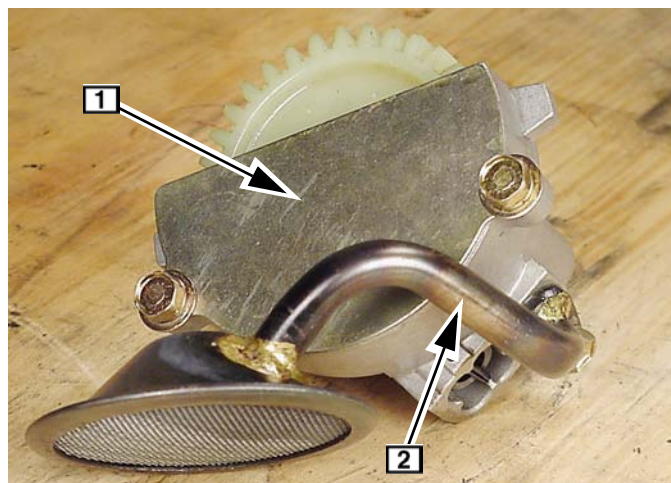

Fig. 93
1. Remove two screws and oil pump gear baffle **1**, Fig. 93.